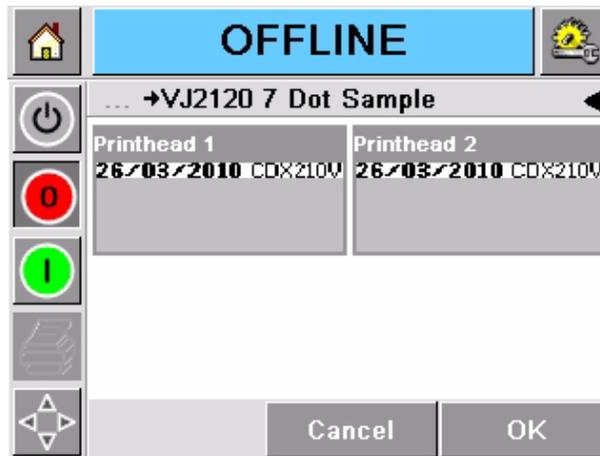

Figure 5-39: Job Select Preview
e. The job selected is shown on the Line Select page (Figure 5-39 on page 5-29).